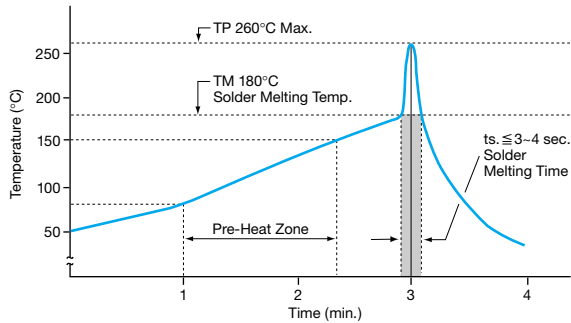
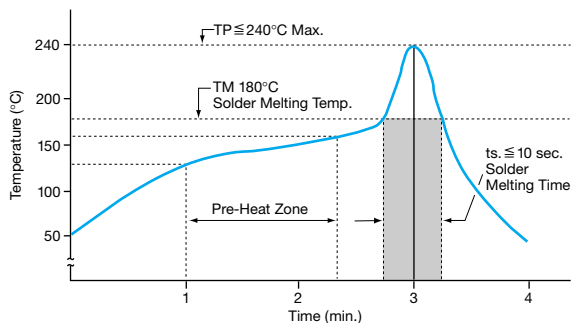

Figure 7: Example of Flow Soldering Temperature Profile For SMD Trimmers
Figure 8: Example of Reflow Soldering Temperature Profile For SMD Trimmers
1. Surface Mount Trimmers. For pre-heat time and temperature for surface mount trimmers and the specially designed G4C through-hole series, refer to the reflow and flow temperature profiles specified for individual trimmer series. A typical temperature profile in shown is *Figure 7*.
The recommended temperature profiles for flow and reflow soldering methods are specified under each series of SMD products. Examples of flow and reflow temperature profiles are shown in *Figure 7* and *Figure 8*.